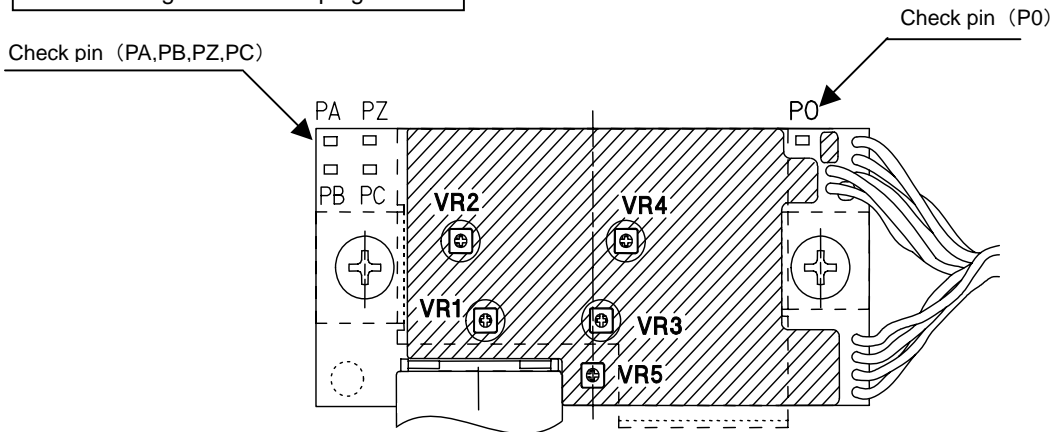

Figure 1. Closeup of PCB and the configuration of the entire detector
(1) The serial detector TS5691 is composed of the sensor, preamp, and detection gear. The entire composition and the closeup of PCB are shown in Figure 1, the function of each volume in Table 1, and the function of each check pin in Table 2.